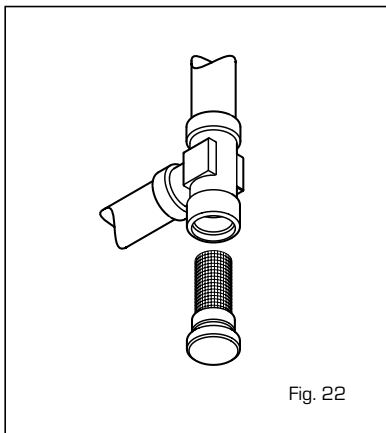

Fig. 22
4.5.2 Cleaning the "Aqua Guard Filter System" (fig. 22)
4.5.3 Operation floor drying (fig. 22/a)